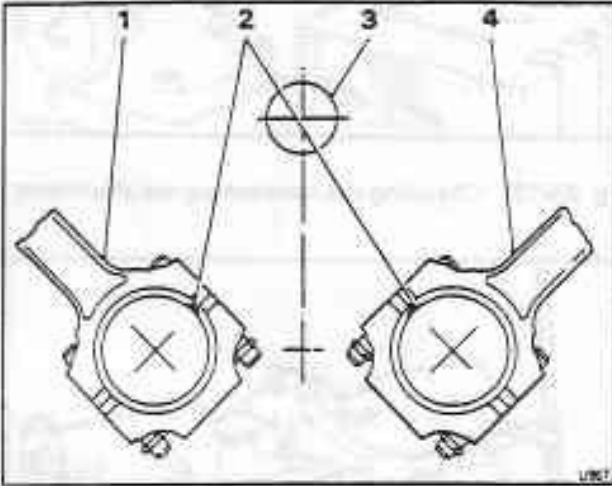

Fig. E6-12 Position of the connecting rod tangs
3. To ensure that the gudgeon pin, piston, and connecting rod are always assembled the same way, fit the pin to the piston so that the cylinder number on the pin is on the same side as the cylinder number on the pistons. The tangs on the connecting rod and cap should always be nearest the camshaft (see fig. E6-12).